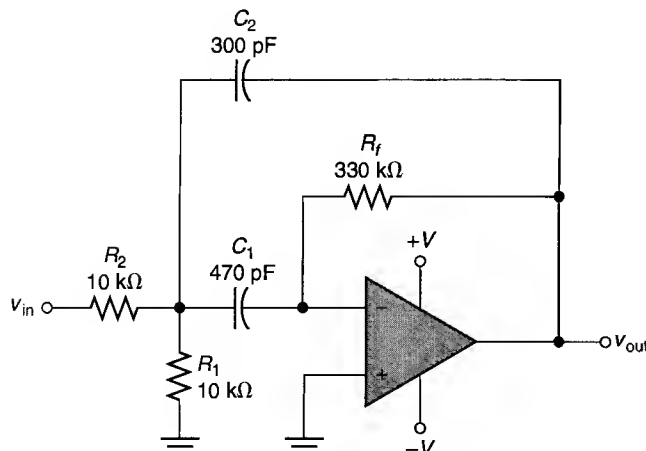

FIGURE 17.53
18. Calculate the values of f_{C1} , f_{C2} , bandwidth, geometric center frequency, and Q for the band-pass filter in Figure 17.53.
22. Calculate the value of A_{CL} for the filter in Figure 17.53.